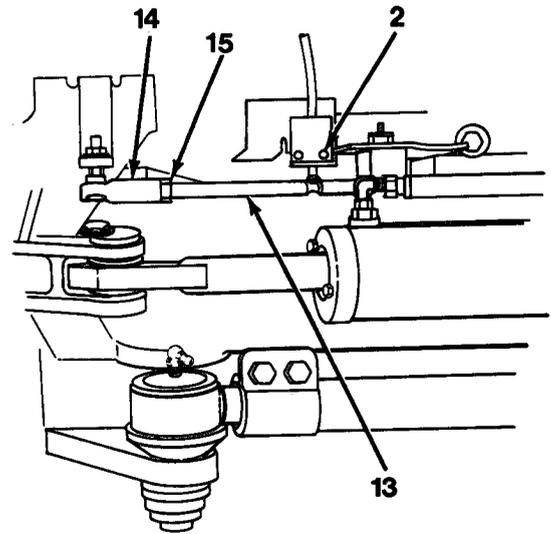

Figure 10-3
2. Loosen jam nut (15) on rod (13, Figure 10-3).
3. Thread rod (13) in or out of rod end (14) until switch cam is in the center of groove on rod (13).
4. Tighten jam nut (15) against rod end (14).
5. Loosen two sockethead capscrews (2). Slide cam switch down until roller is centered in groove and just rests on rod (13). Tighten two sockethead capscrews (2).